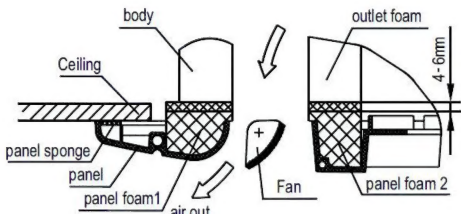

Fig.4-23
- Keep fastening the screws under the panel hooks, until the thickness of the sponge between the body and the panel's outlet has been reduced to about 4~6mm. The edge of the panel should contact with the ceiling well. (Refer to Fig.4-23)